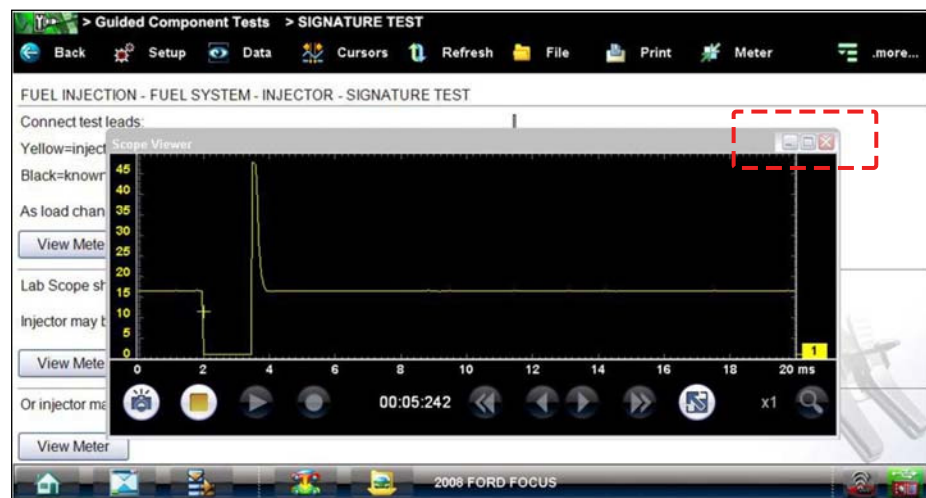

Figure 7-10 Sample meter view in a separate window
2. Select the **Meter** icon a second time and the meter open as a separate window (Figure 7-10). This window can remain open if you switch to the Scanner function and can be accessed from the Windows taskbar at the bottom of the screen. You can also resize and reposition the meter window on the screen.